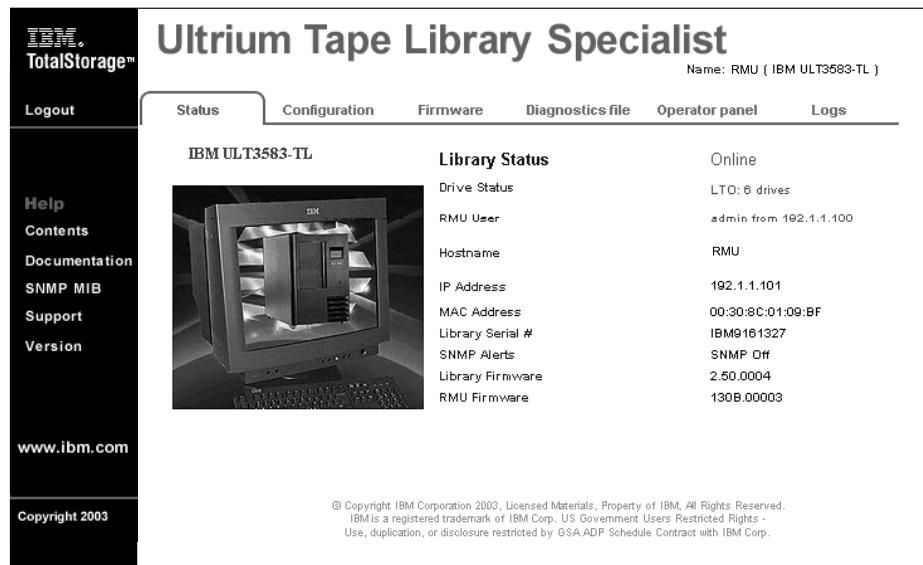

Figure 367. Status page
- You can also view the level of firmware currently loaded on the library or the RMU by opening the RMU web page and selecting the Status tab. The current status of the library displays (see Figure 367).